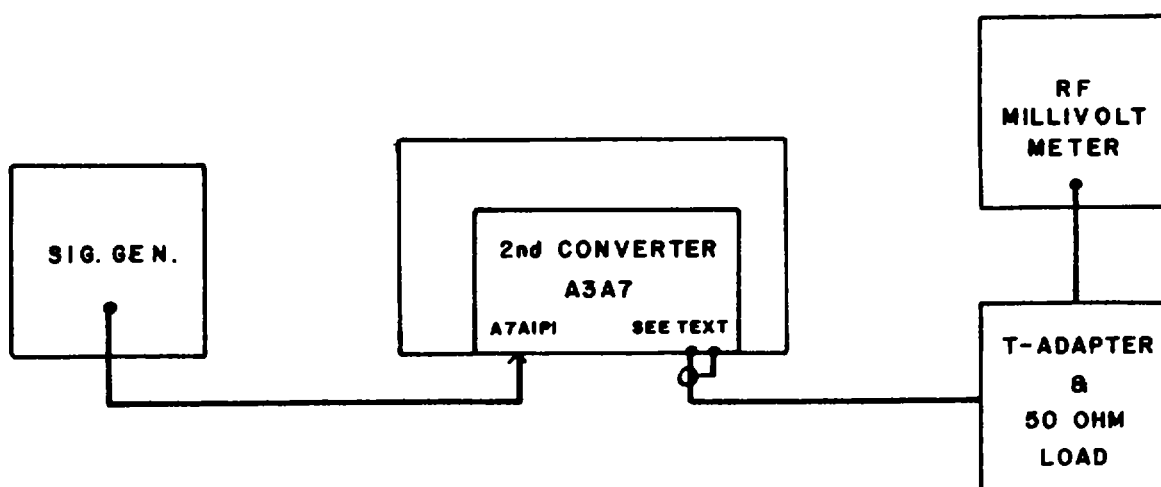

Figure 4-6. 2nd Converter Performance Test, Equipment Connections
2. Connect the test equipment as illustrated in Figure 4-6.